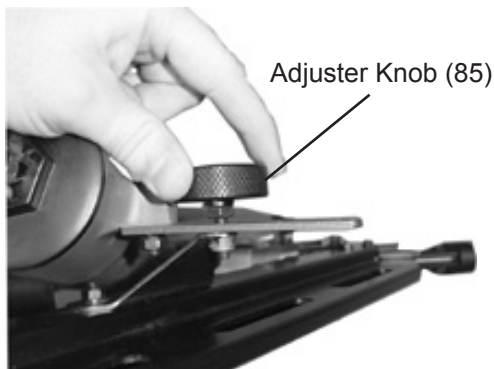

Figure 4
2. Remove the Adjuster Knob (85). See **Figure 4**, above.